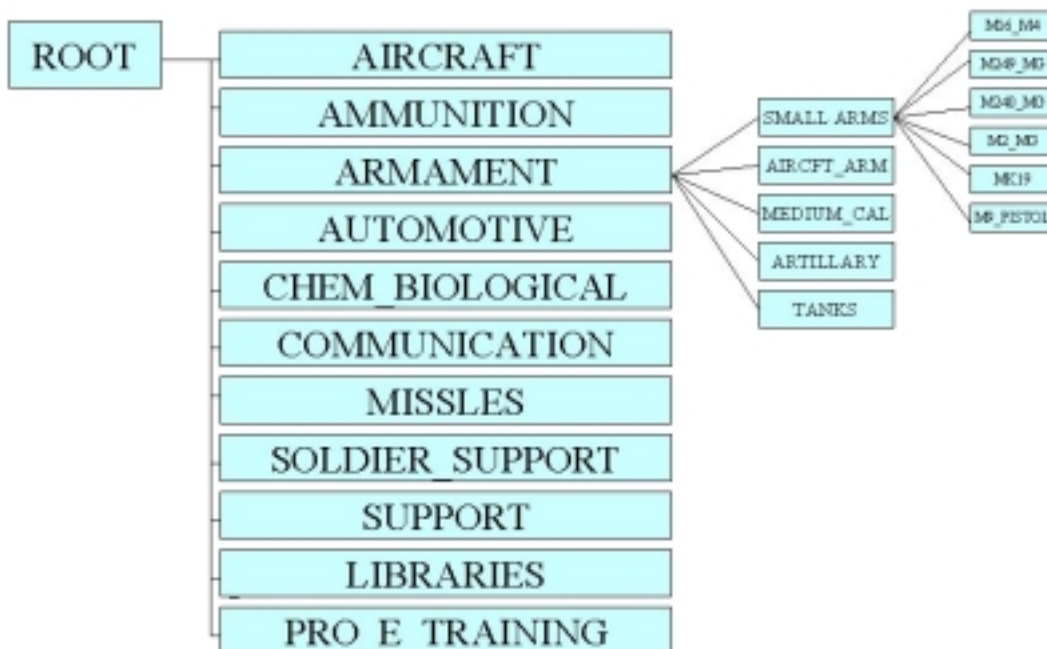

FIGURE 2. Folder Scheme
Folder Scheme	Figure 2
1.4 FOLDERS: The folder scheme used in INTRALINK is shown in figure 2. Further subfolders will be added at the request of the system configuration manager.